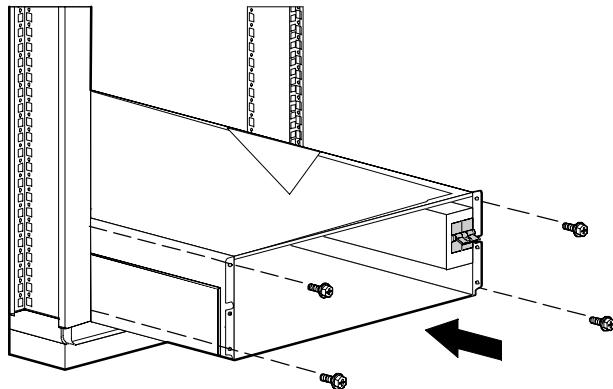

Figure 2. Installing the EBM Chassis
2. Attach the EBM chassis to the rack using the screws supplied with the rack (see Figure 2).